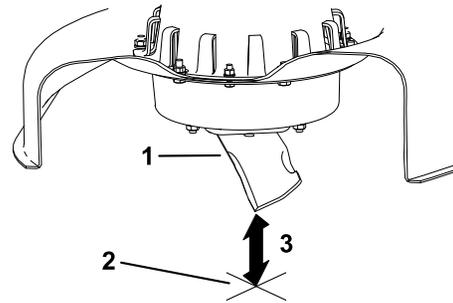

Figure 34
5. Measure from the tip of the blade to the flat surface (Figure 34).